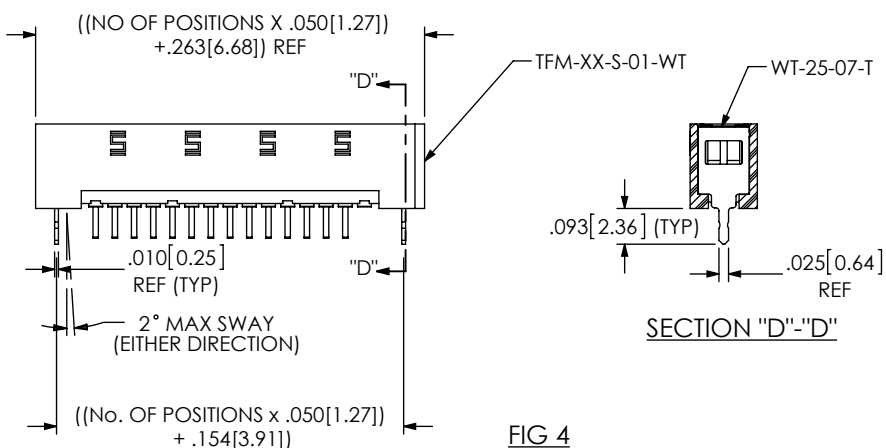

FIG 4
- WT: WELD TABS (USE WT-25-07-T) (SEE FIG 4, SHEET 2) (AVAILABLE ON -02 THRU -30 POS ONLY) (NOT AVAILABLE WITH -A OR -LC OPTIONS)